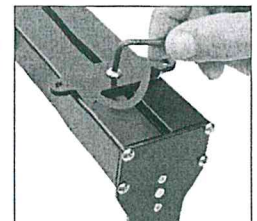

Fig. 4
- Retighten the bracket bolt. Failing to do so can result in the shade disconnecting from the mounting bracket during operation. (Fig. 4)